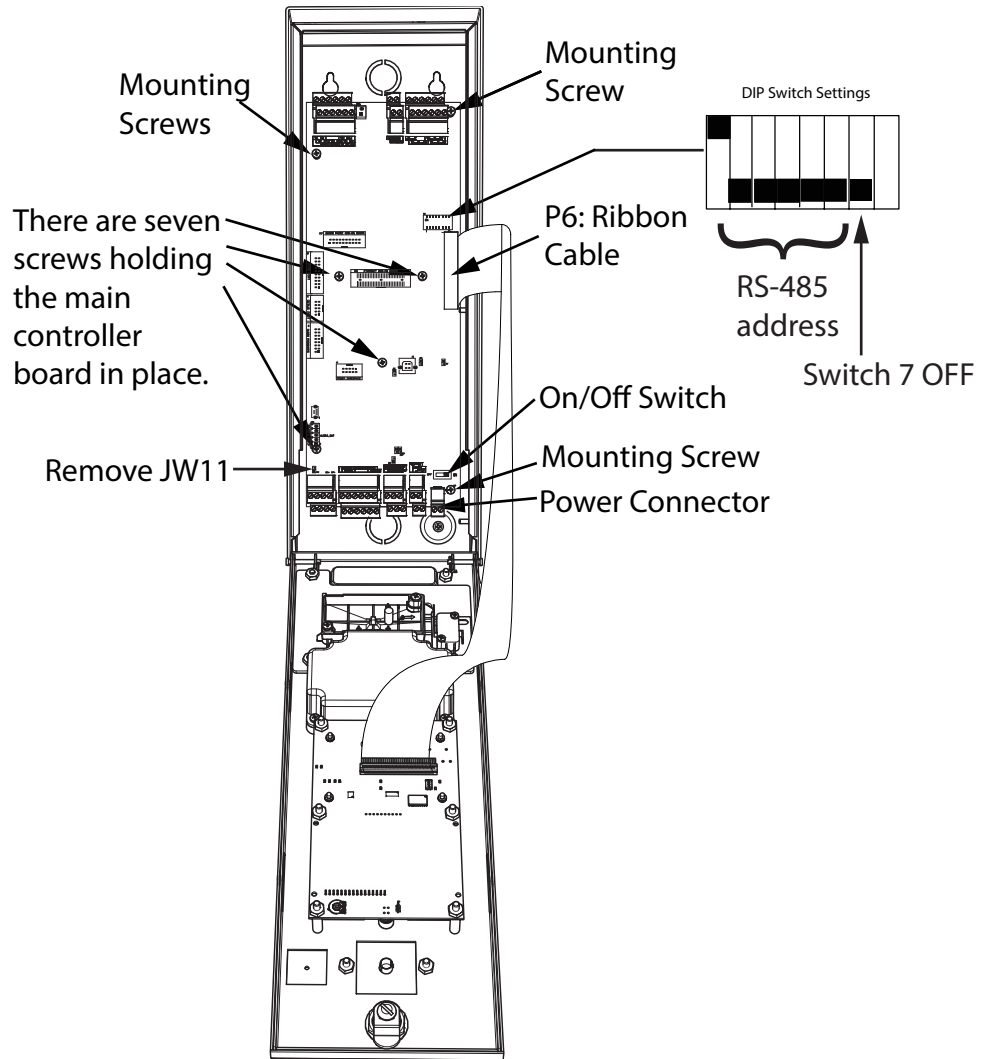

Figure 2 Installing RB-MD-1245
See Figure 2 below for the location of the DIP switches.
2. If there is a jumper on JW11, remove it. See Figure 2 below.
3. Set DIP switch 7 to OFF. See Figure 2 below.
1. Connect the ribbon cable from the door to P6 on the controller board as shown in Figure 2.